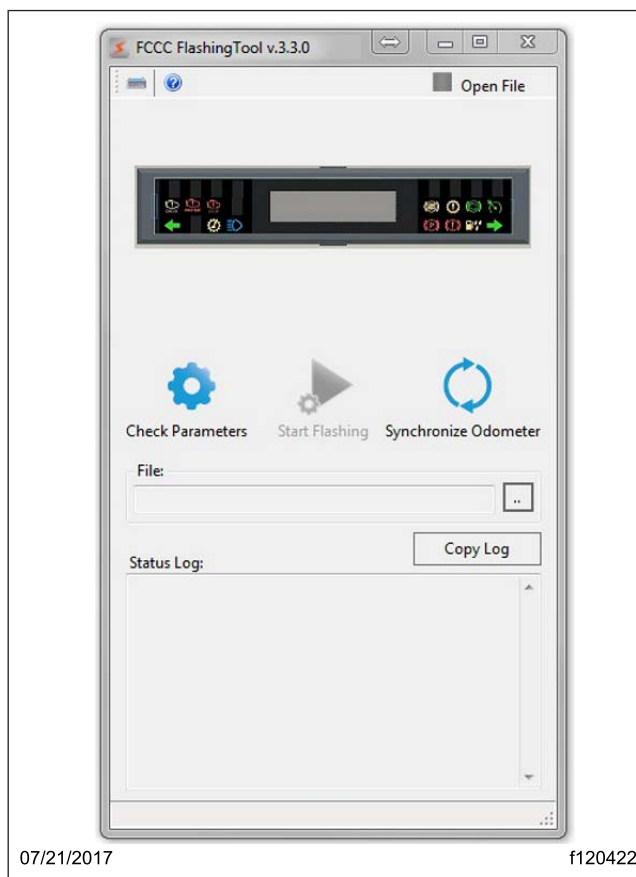

Fig. 16, Selecting the Synchronize Button
1. With the ignition switch in the ON position, select the CAN bus speed (if not already selected) and the proper hardware. Select the "Synchronize Odometer" button to start the process. See Fig. 16.